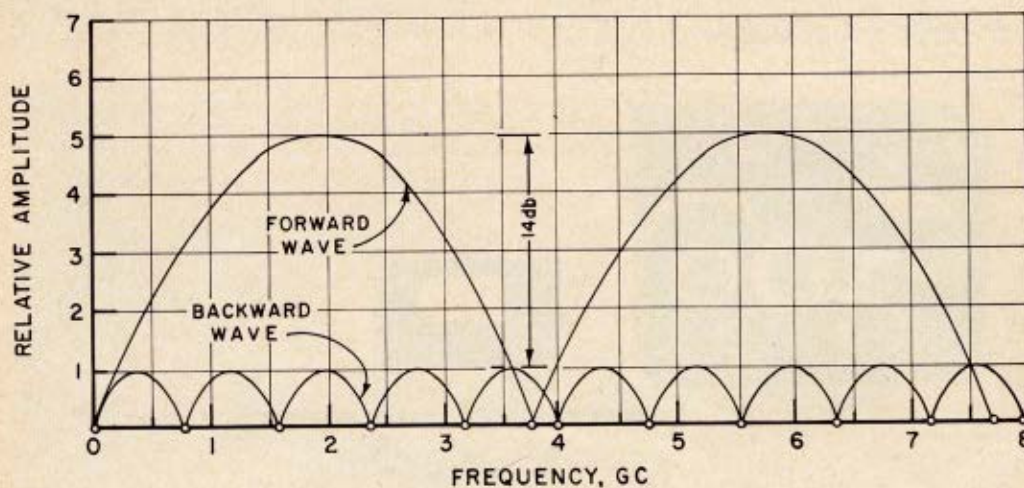

Figure 4 — Forward and Backward Wave, Matched Case,  $\frac{\beta - \beta_0}{\beta_0} = 0.52$ , 15-cm Long Cable.
A null in this forward wave occurs when  $(\beta - \beta_0)L = 2n\pi$  and a maximum when  $(\beta - \beta_0)L = (2n-1)\pi$ . The variation of forward wave amplitude with frequency is shown in Figure 4. Also shown is the backward wave, which is the signal that would appear in a detector at the source end of the outer line. This is obtained from Equations (5) and (9) in the Appendix, employing a polyethylene-dielectric internal line and air-dielectric external line.